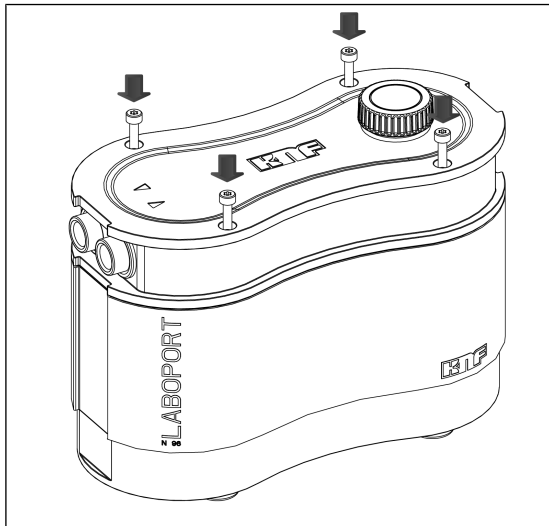

Fig.13: Screwing in housing screws
3. Screw in the four housing screws (1) crosswise (tightening torque: 190 – 200 Ncm) (see Fig. 13).